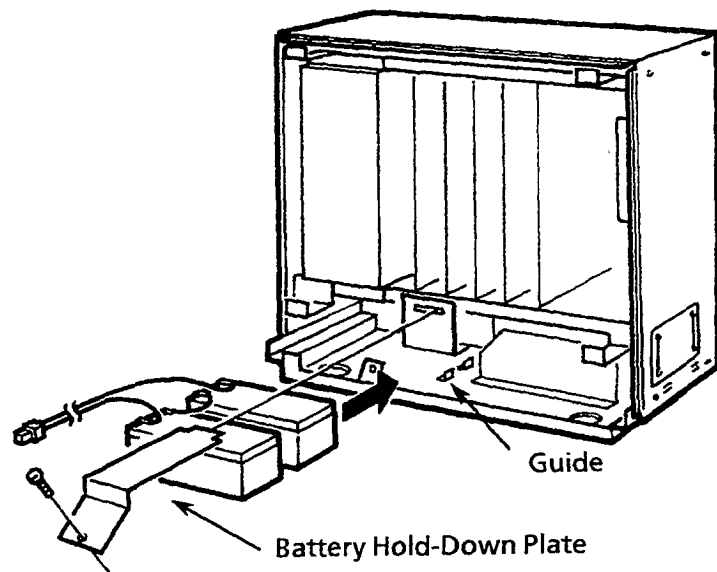

Figure 3-33 Placing the Batteries in the Level II KSU
2. Install the battery hold-down plate and tighten the screw. Refer to Figure 3-33 - Placing the Batteries in the Level II KSU.